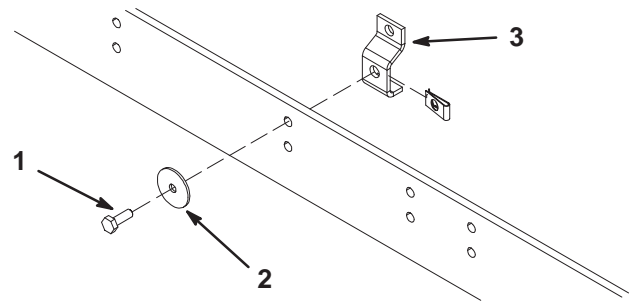

Figure 11
3. Using flat washers and 1/4 x 3/4 inch (19 mm) screws, loosely attach the mounting brackets (with speed nuts assembled) to the appropriate holes in wiper (Fig. 11)